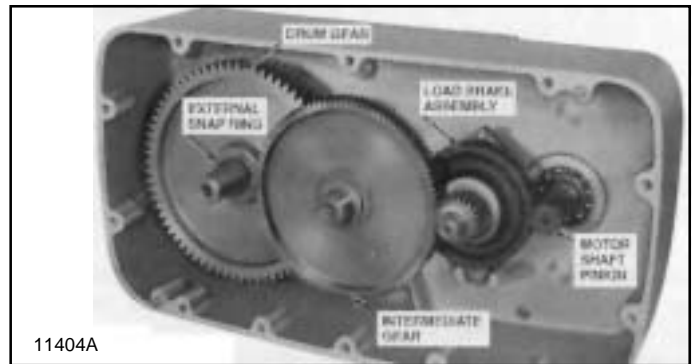

Figure 5-3. View of Gearcase – Cover Removed.
- The mechanical load brake and gearing may be inspected and serviced with hoist suspended. To do so, remove lower block and wire rope, drain oil from gearcase, remove 12 hex head bolts and lockwashers holding gearcase cover, and pull cover from gearcase (Figure 5-3).